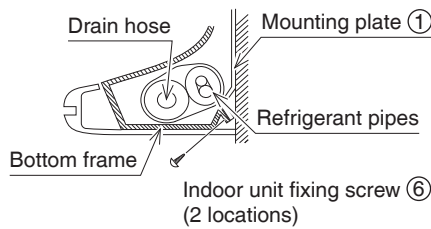

Fig. 14
- While exercising care so that the field wires do not catch indoor unit, press the bottom edge of indoor unit with both hands until it is firmly caught by the mounting plate hooks. Secure indoor unit to the mounting plate with the indoor unit fixing screw ⑥ as shown in **Fig. 14**.